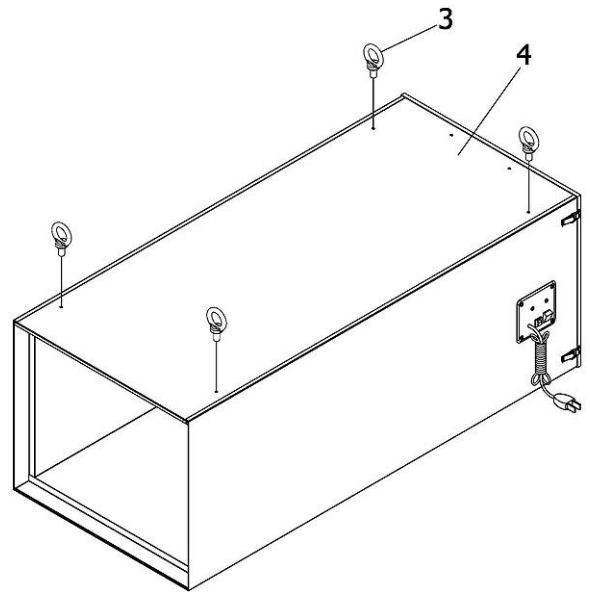

Fig.1
5. To assemble, first place the hanger (NO.3) to cabinet (NO.4) and tighten up. See FIG.1